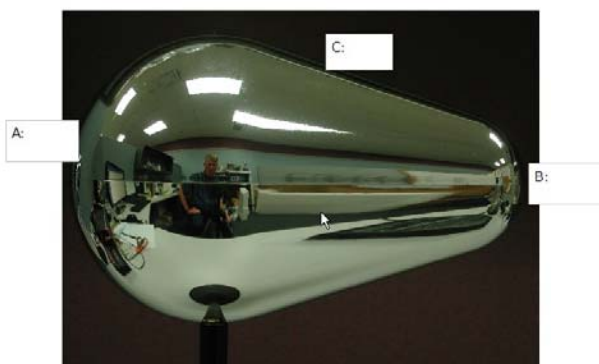

Figure 4: Non-spherical Charge Distribution
- Touch the large-radius end (point A on Figure 4) of the oblong shaped conductor with the proof plane.
5. Without letting it touch the basket, insert the proof plane into the lower half of the inner basket of the ice pail. Record the reading from the electrometer on Figure 4 at point A.